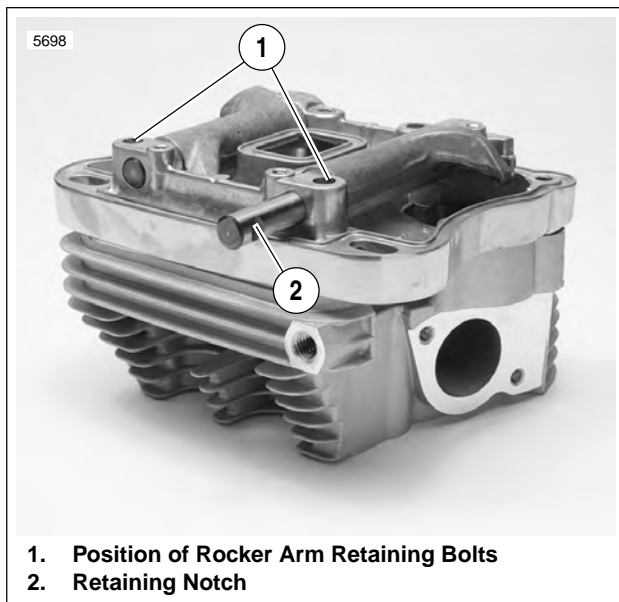

Figure 3-6. Removing Rocker Arm Shafts
7. See Figure 3-6. Remove rocker arm shafts by tapping them out using a hammer and a soft metal punch.